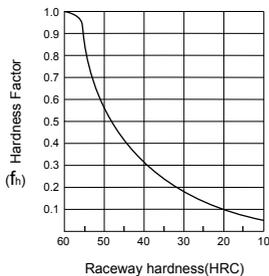

Fig 1.3.2 Hardness Factor (f_h)
f_h : Hardness factor (Fig1.3.2)
- f_h : hardness factor (Fig 1.3.2)